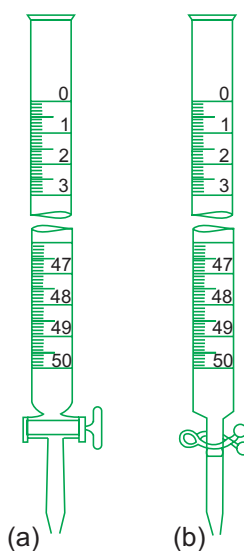

Fig.1.2. Burettes.
4. Clamp the burette after padding with paper in a burette stand in vertical position. Pour the solution into it with the help of funnel as shown in fig. 1.2. The funnel is slightly kept above the burette for the escape of air. Funnel is removed after filling the burette. Air bubbles are removed by opening the stop cock so that the outgoing solution removes the bubbles through the nozzle.